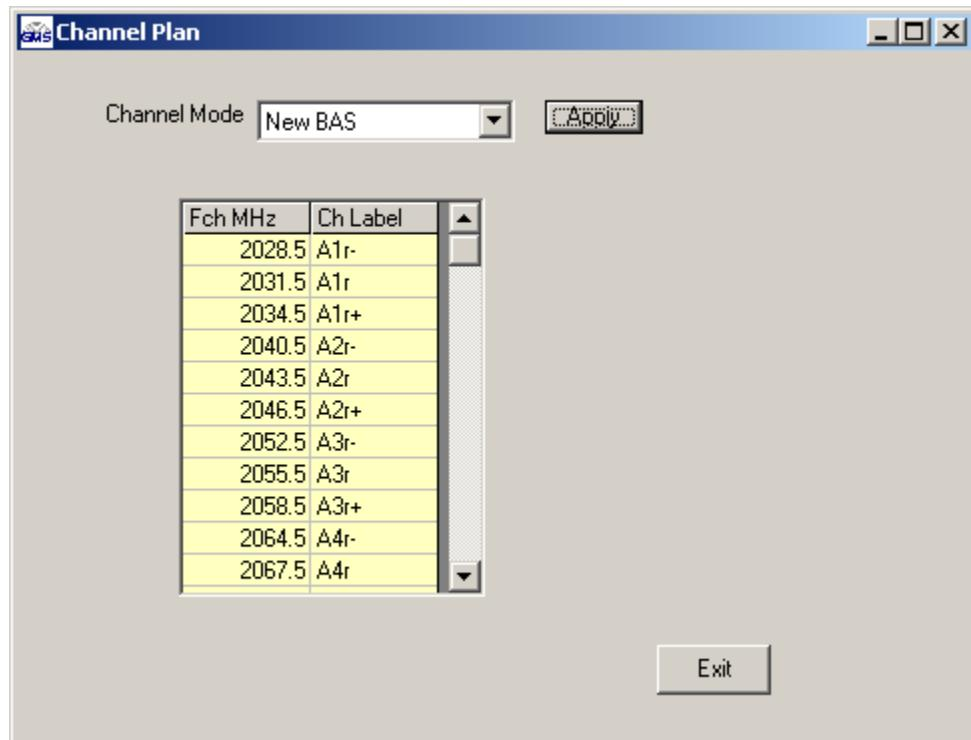

Figure 7 – Channel Plan Opening Screen
- **“Load Group” Button:** The data structure of the M2T is organized into “Groups” of selected fields. A Group contains the following fields (refer to Figure 7 above): ***Carrier Mode, Modulation Mode, COFDM Bandwidth, COFDM mode, Guard Interval, Modulation FEC, Video Frame Size, Video Frame Rate and Input Mode.***
The Channel Plan default channel mode is NEW BAS frequencies as shown in the opening screen in Figure 7. The RF channel mode selected here is also reflected in the 'RF Freq (MHz)' text box on the front page of the GMS configurator and also displayed on the LCD display under the main menu under the 'TX RF FREQ' display.